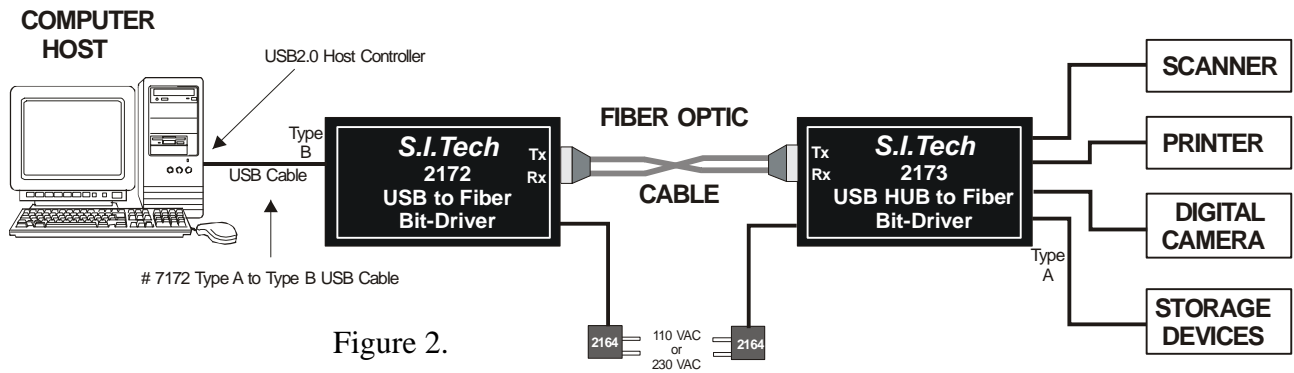

Figure 2.
S.I.Tech Models 2172 and 2173 come equipped with SC connectors for both multimode and single mode fibers. 2172 and 2173 are used in pairs and connected as shown in typical application drawing Figure 2.